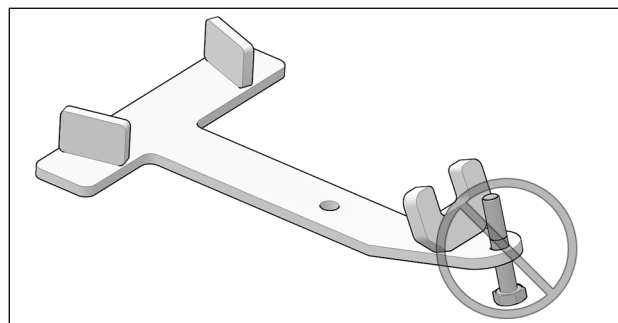

Fig. 12
**CAUTION:** Be sure that bolt is inserted in the right direction. See Fig. 12